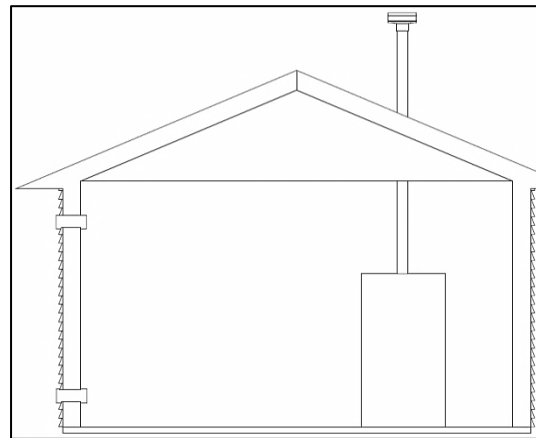

Figure 13 – Combustion Air From Outdoors
1. If air is taken directly from outside the building with no duct, provide two permanent openings to the mechanical room each with a net free area of one square inch per 4000 BTU/hr input. See Figure 13.